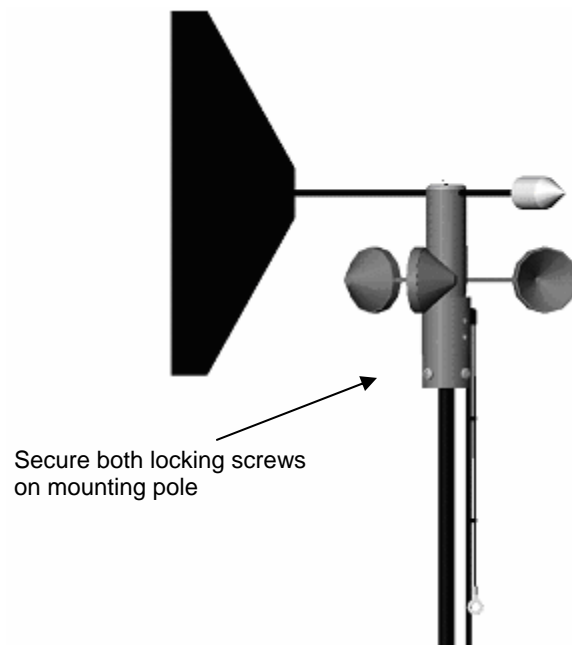

Figure 1: Sensor Secured on Mounting Pole
1. Insert the Wind Speed/Direction smart sensor into the mounting pole and secure it at the base of the sensor using the two Phillips head locking screws (see Figure 1).
5. Once you've obtained the correct position, secure the sensor by tightening the two Phillips head screws at the base of the sensor until it is firmly attached to the ½ inch diameter black mounting pole (see Figure 1).
7. Once the vane is in position, secure the sensor by tightening the two screws at the base (see Figure 1) until it is firmly attached to the ½ inch diameter black mounting pole.